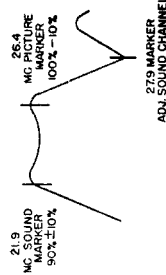

FIG. 8
5. Set channel selector on tuner to channel 2. Adjust slug on tuner output transformer T1 and input IF transformer T3 to obtain an approximate symmetrical curve as shown in Figure 8.